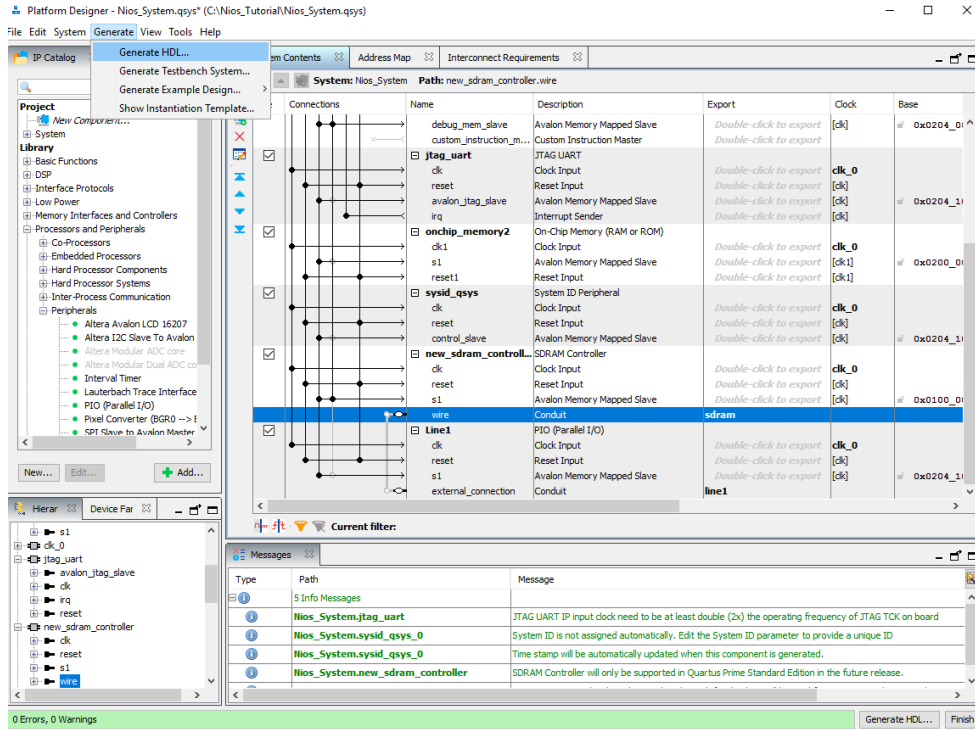

Figure 1-35 Generate HDL tab
22.) Now we have no more warning and we can Generate our system. To do that select the **Generate** tab at the top of the screen as shown in figures 1-35 and 1-36.